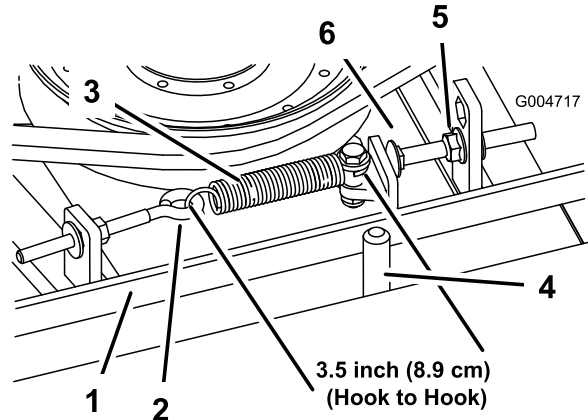

Figure 97
When properly tensioned, the inside measurement of the extension spring (hook to hook) should be approximately 8.27 to 9.53 cm (3.25 to 3.75 inches). Once the correct spring tension is attained, adjust the stop bolt (carriage bolt) until there is approximately 0.17 to 0.4732 cm (0.065 to 0.185 inches) clearance between the head of the bolt and the idler arm (Figure 97).
Note: Ensure that the belt is positioned on the spring side of the belt guide (Figure 97).
2. Loosen the eye bolt allowing the removal of the extension spring (Figure 97).
3. Loosen the flange nut securing the stop bolt to the mounting tab and move the idler pulley away from the belt to release the belt tension (Figure 97).
9. Connect the extension spring (Figure 97) to the eye bolt and tension the belt as follows: